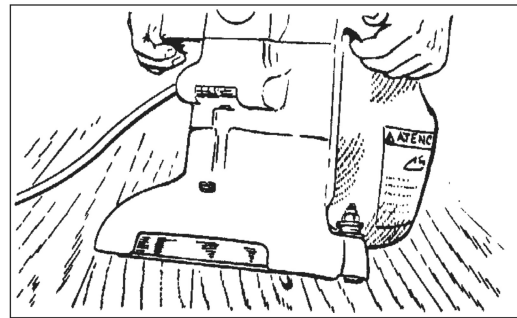

Figure 4
2. Return machine to upright position and tilt machine back on casters until it comes to rest on the exhaust bracket. Machine will be in a reclined position. Do not allow machine to rest on pad especially after use, or compression set may take place within elastomer on pad. This will create a flat spot and bounce during use. (Figure 4)
3. With the machine in the reclined position firmly grasp both handles and flip the control switch to the "ON" position. (Figure 4.)